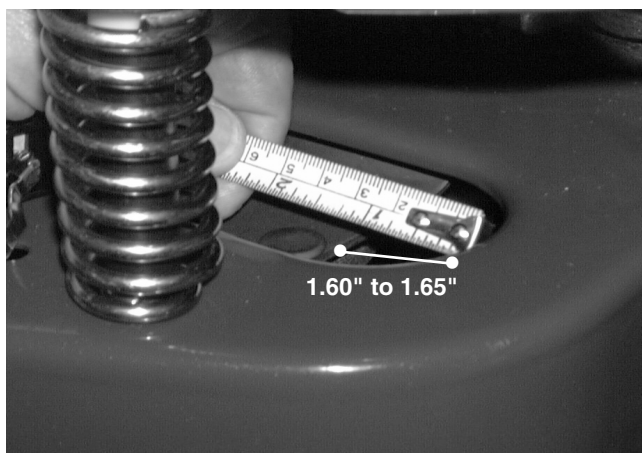

FIGURE 4.
–The measurement will be between 1.60" and 1.65". See figure 4.